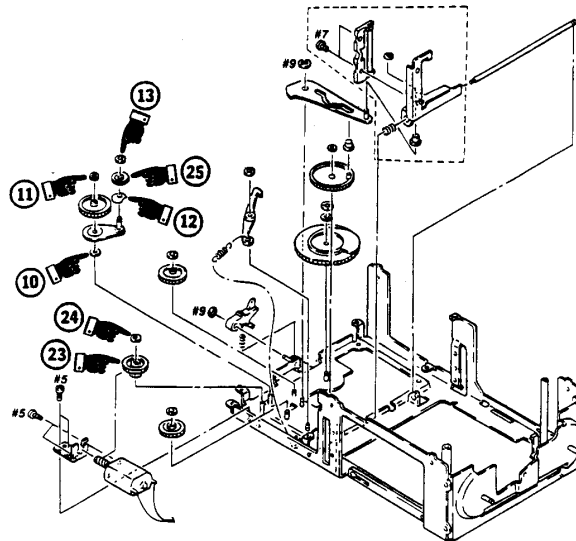

FIG.4
7C- Remove the worm wheel and split washer (figure 4, items 23 and 24).
7D- Remove and discard the split washer (figure 4, item 11) and lift the KMZ lever assembly from the chassis. Also, discard the round washer (figure 4, item 10) found beneath the KMZ lever assembly.
7E- Remove the split washer, KS gear, and "F"-spring (figure 4, items 13, 25, and 12) from the KMZ lever assembly. Discard the "F"-spring and split washer.